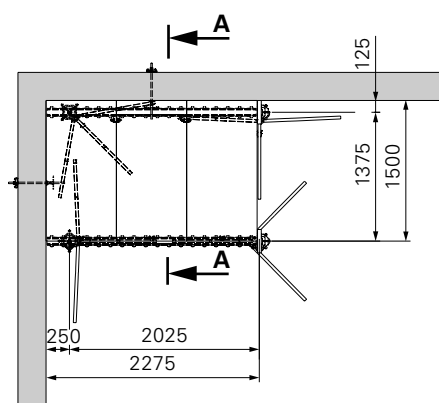

Fig. A4.05
1. Position prop with Prophead (6) in one corner of the room (spacing: see Fig. A4.05).